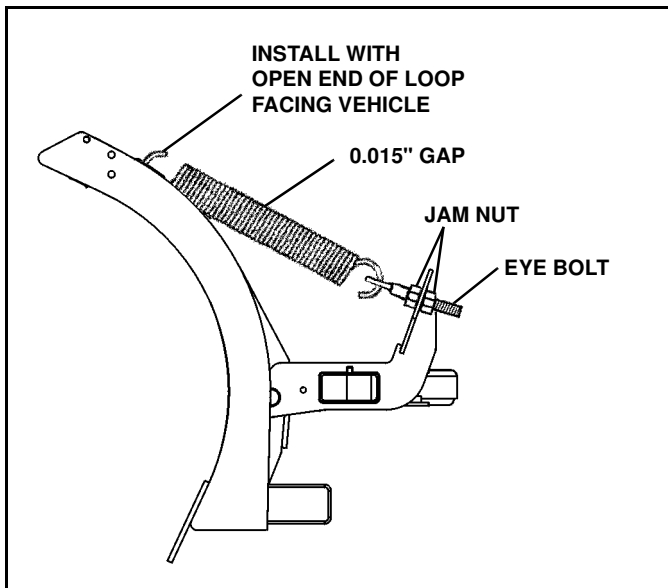

Figure 1-7
6. Remove the springs from the power pack carton. Hook springs onto blade with open end of loop facing up. (See Figure 1-7).
7. Hook other end of spring onto eyebolt. Insert one eyebolt on each side of the blade into the hole on the swing frame spring bracket. Use a nut on either side of bracket to secure. (See Figure 1-7).